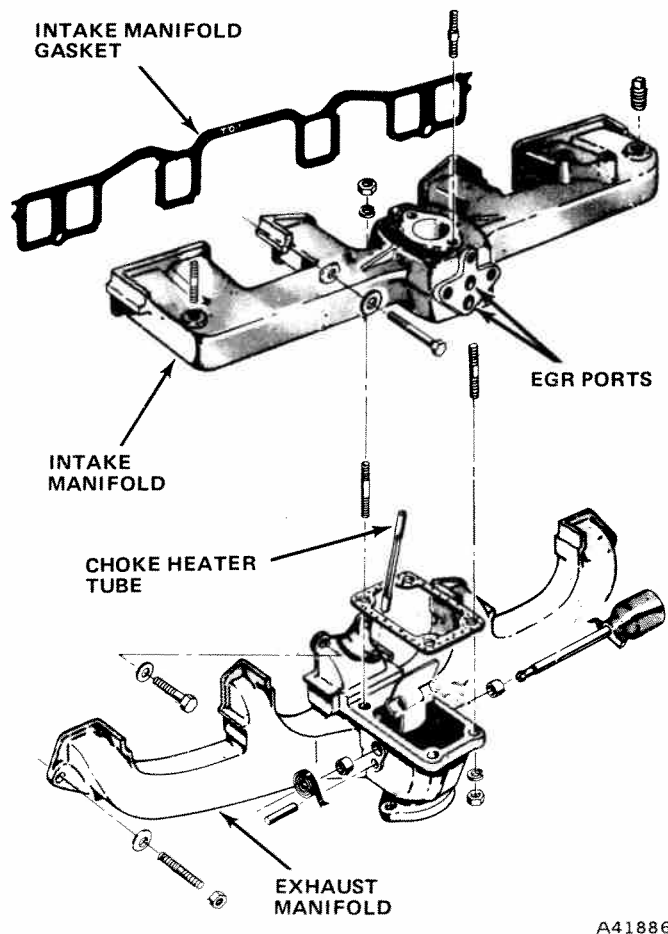

Fig. 1A-12 Intake and Exhaust Manifold Assembly
- (1) Assemble manifolds and finger-tighten heat riser retaining nuts.
- (2) Position new intake manifold gasket on cylinder head and install manifold assembly. Tighten manifold attaching bolts and nuts in sequence (fig. 1A-13) to 23 foot-pounds torque.
- (3) Install flange gasket and connect exhaust pipe to manifold flange.
- (4) Install carburetor.
- (5) Install air conditioning compressor and bracket assembly to intake manifold (if equipped).
- (6) Install drive belt and tighten to specified tension.
- (7) Install TCS solenoid vacuum valve and bracket to intake manifold.
- (8) Connect vacuum hoses to the EGR valve.
- (9) Connect accelerator cable and PCV hose.
- (10) Install air cleaner.